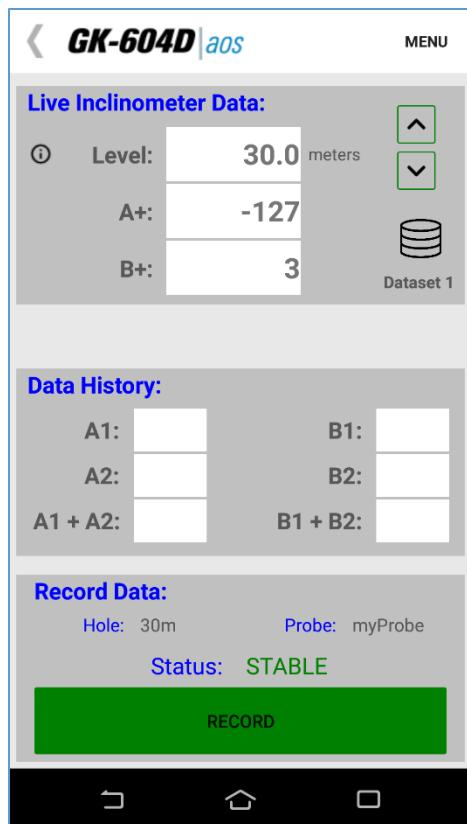

Figure 17 - Live Readings Screen
- b. The Live Readings Screen will be displayed (Figure 17).